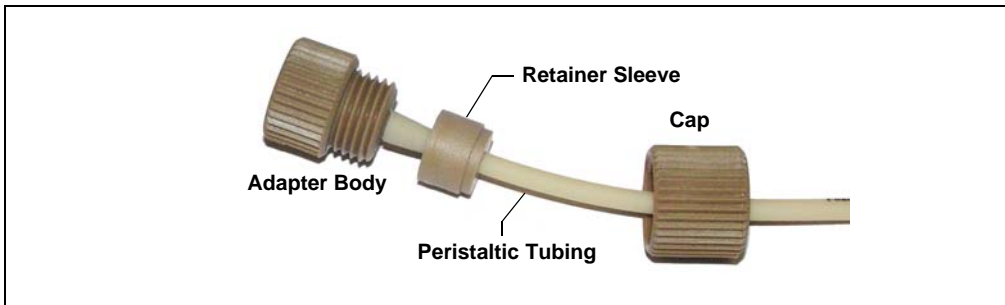

Figure E-4. Peristaltic Tubing Adapter Connections
1. Install the peristaltic tubing adapter parts on the PharMed tubing in the order and orientation shown in Figure E-4. Use the retainer sleeve with an inside diameter that is closest in size to the outside diameter of the tubing.
2. Push the point of the adapter body into the tubing until the tubing is flush with the adapter body (see Figure E-4).